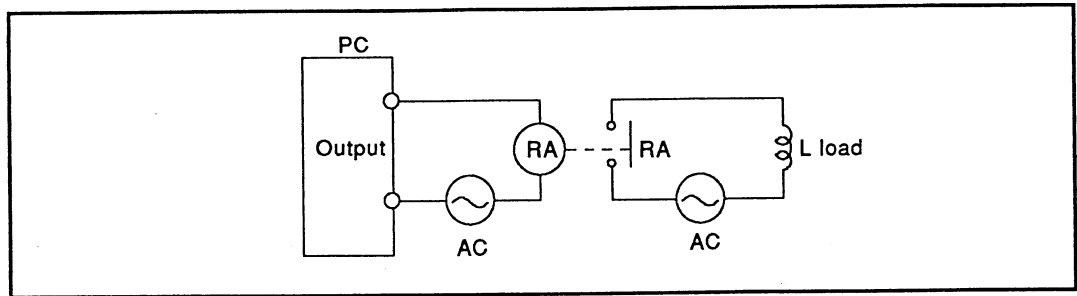

Fig. 6.12 Load Driving by Using Relays
- 7) The relay in the panel has also an effect (See Fig. 6.12).